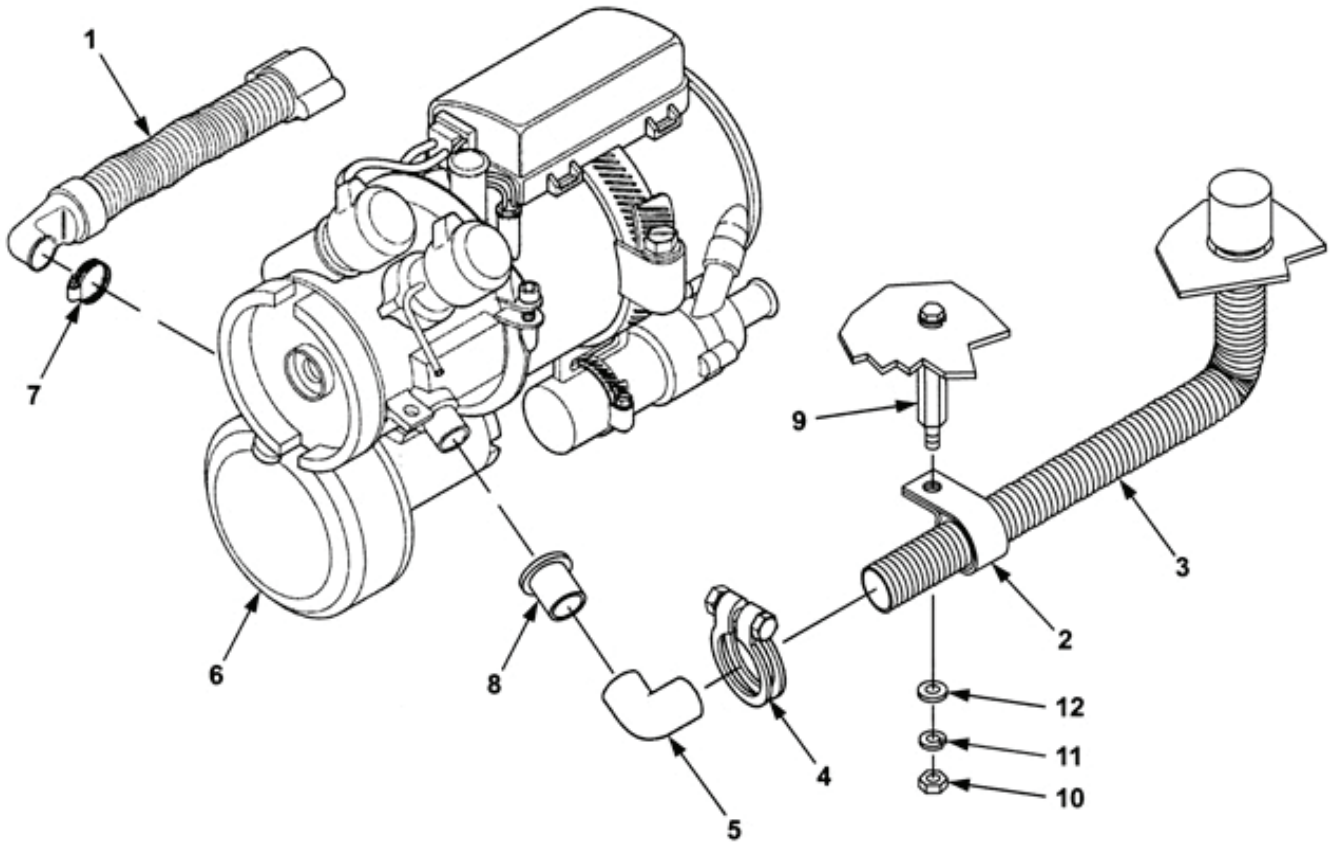

Figure 6-22. Air Inlet and Exhaust Hose Maintenance.
- a. Loosen screw clamp (7, Figure 6-22) to remove air inlet hose (1) from heater (6).
- b. Loosen screw clamp (4) to remove air exhaust hose (3) and elbow (5) from heater (6).
- c. Remove bushing (8) as required.
- d. Remove RTV (high heat sealing compound), air exhaust hose (3) and clamp (2) from standoff (9) by removing nut (10), lock washer (11) and flat washer (12). Discard lock washer (11).